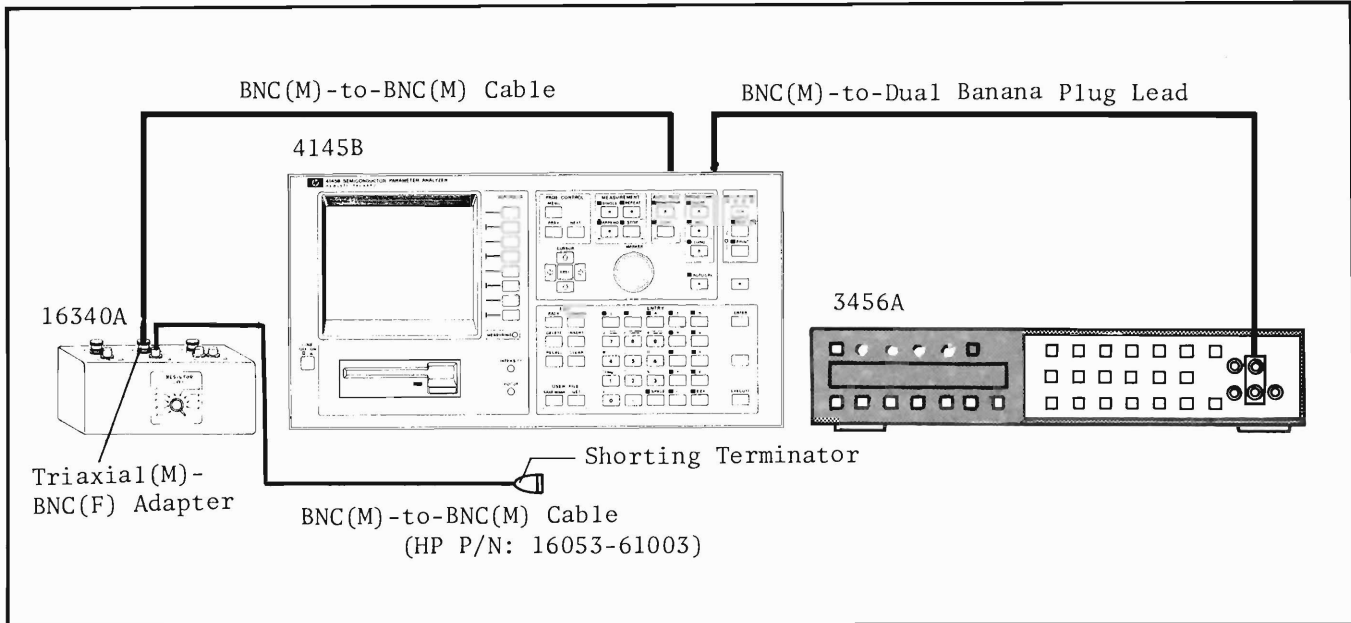

Figure 4-10. VS Accuracy Test Setup.
2. Terminate the BNC cable with the shorting terminator. See Figure 4-10.
3. Connect the BNC T type adapter to VS channel 1 (Vs1), then connect the 3456A and the 16340A to the VS channel 1 (Vs1) as shown in Figure 4-10.